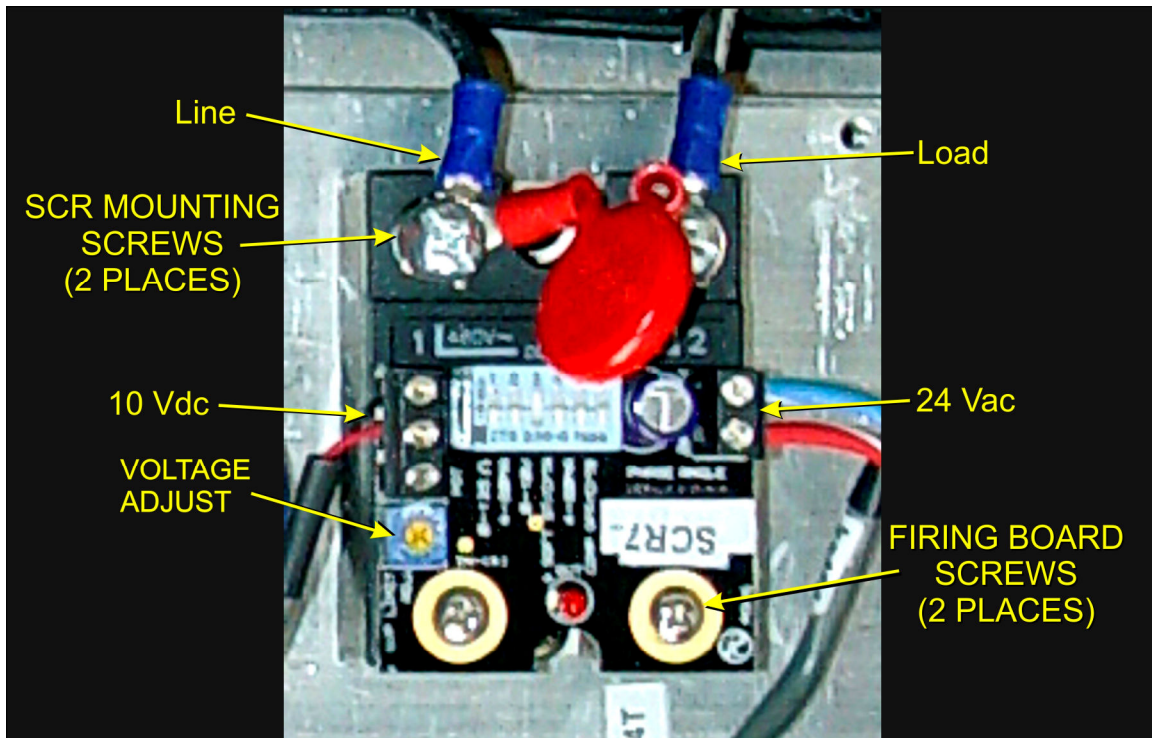

Figure 3-21 SCR installed
To remove the entire SCR assembly, disconnect the 10Vdc and the 24 Vac wire pairs. Unscrew the Line and Load wires. If you are only replacing the firing board, remove the (2) firing board screws. If you are removing the entire assembly, remove the (2) SCR Mounting screws. See **Figure 3-21 SCR installed**